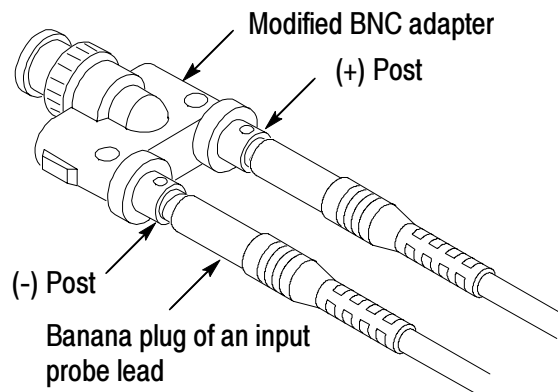

Figure 13: Slide probe leads onto the binding posts
6. Attach the differential probe input leads (without attachment accessories) by sliding the banana plug of the leads onto the binding posts of the Modified BNC adapter, as shown in Figure 13 on page 23.